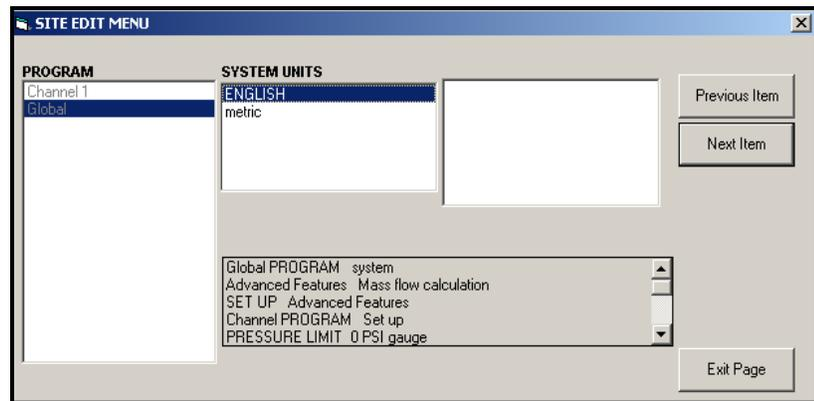

Figure C-14: The System Option in the Global Menu
2. Highlight and double-click on the *System* option in the center pane. The window now appears similar to Figure C-14 below.